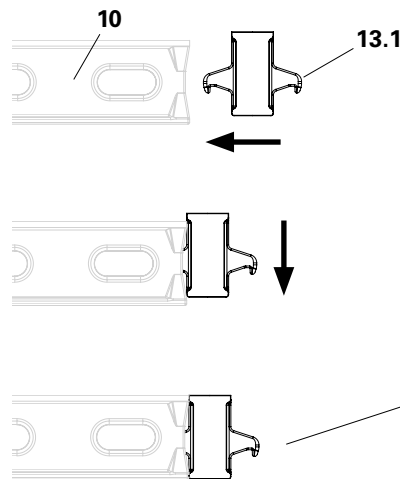

Fig. B8.03
- transfer the concrete pressure to the DP panels (10),
- mount the DUO couplers (21) as shown in the arrangement.
The DWC wall thickness compensator (13) is equipped with teeth (13.1) that grip into the connector pockets (10.2) of the panel (10). The teeth must point away from the concrete. (Fig. B8.03 + B8.03a)